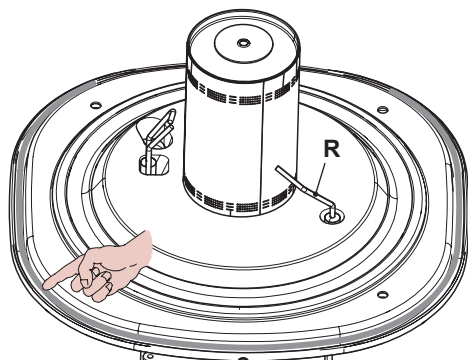
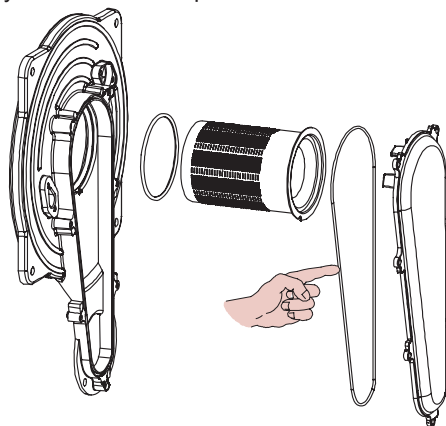

Fig. 9.13
Fig. 9.15
- The detection electrode R in Fig. 9.13 also functions as a sensor for the correct drainage of the condensate. Should the mentioned electrode come into contact with the condensate water present within the combustion chamber it sends the boiler into safety lockout. Therefore, should the insulation be wet or deteriorated, provide for the substitution of the same.
**Caution:** After any periodical servicing or disturbance the combustion chamber silicon seal Fig. 9.13 and the Air-gas duct gasket (Fig. 9.15) must be fully inspected and replaced at the discretion of the service engineer.